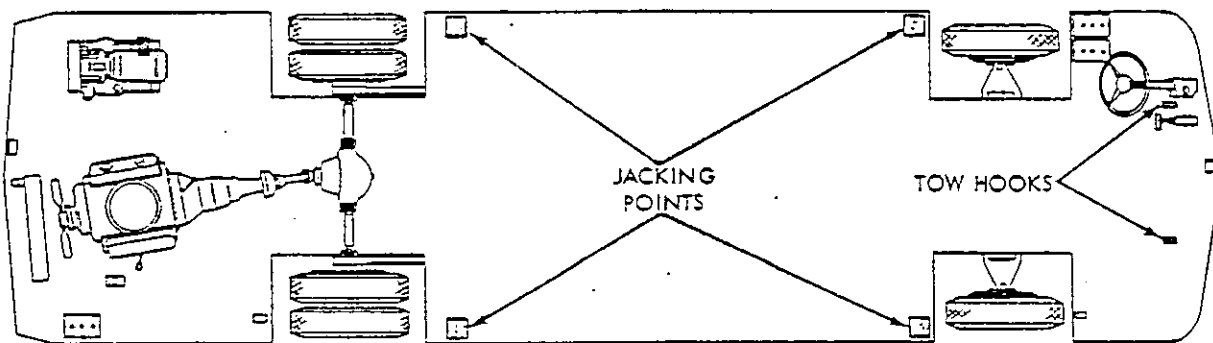

Figure 5-2. Jacking Points
- (1) Set parking brake and insert chocks under rear tires.
- (2) Jack up front end and install truck stands under front jack points; see figure 5-2.
- (3) To gain access to the spindle, remove wheel, hub and drum; refer to Group 8.